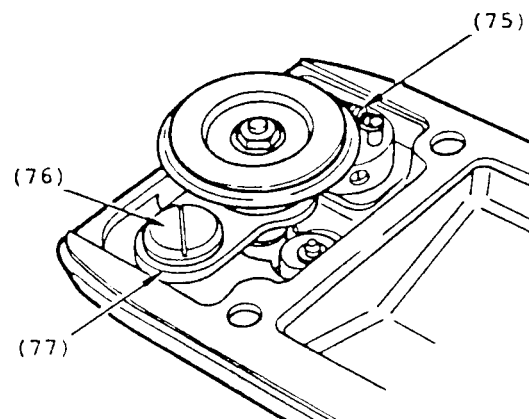

Fig. 37
2. Remove bobbin winder spring (75), Fig. 37.
3. Remove bobbin winder bracket screw stud (76) and bobbin winder assembly (77) from arm top cover.